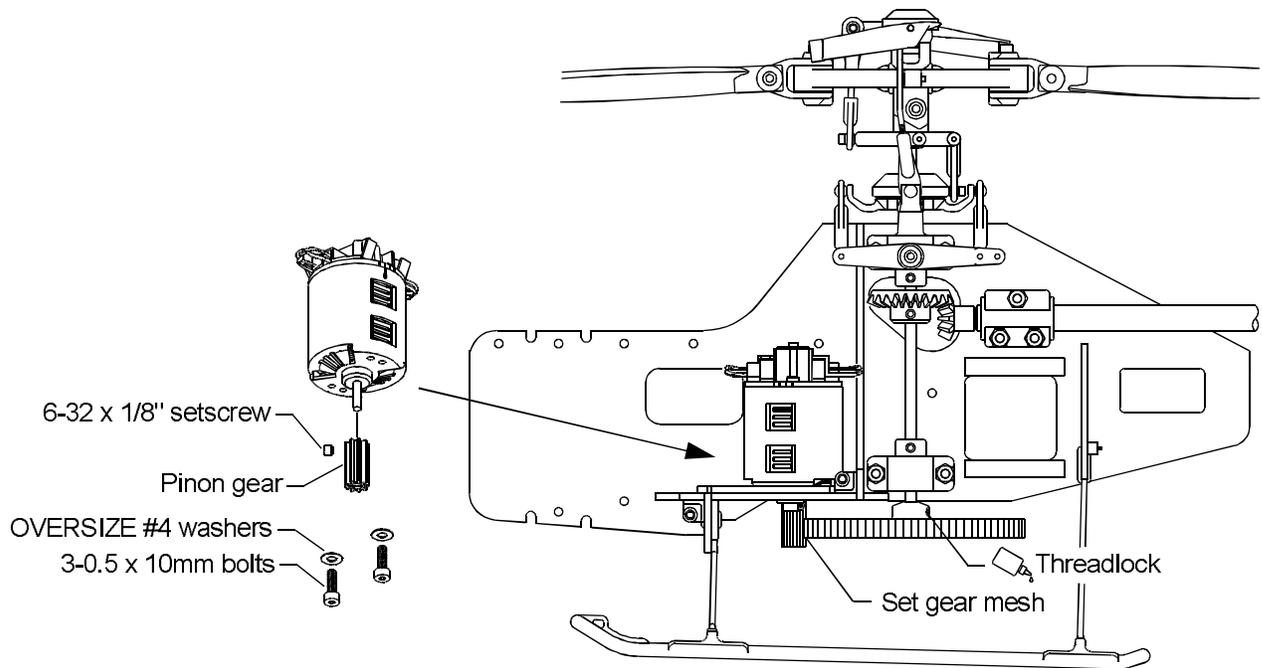

Figure 11-4.
- ❑ 8. Temporarily mount the main gear on the lower end of the main shaft with two 3/16" (4.8mm) setscrews as shown in Fig. 11-4. Make sure one of the setscrews rest on the flat in the shaft.
- ❑ 9. Attach the motor pinion gear to your *Electro-Fusion* motor with a 1/8" (3.2mm) setscrew and threadlock as shown in Fig. 11-4. Be careful not to overtighten the setscrew or you will strip the threads in the pinion gear.
- ❑ 12. Adjust the vertical position of the main gear to run on the motor pinion gear as shown in Fig. 11-4. Once positioned properly, lock the main gear to the shaft using threadlock on the setscrews. **MAKE SURE THE MAIN GEAR SETSCREWS ARE VERY TIGHT.**